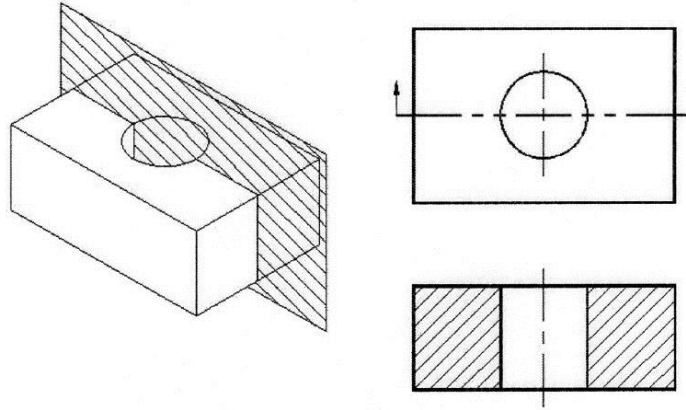

Figure 3. Full Section.
1. **Full Sections** (Figure 3).